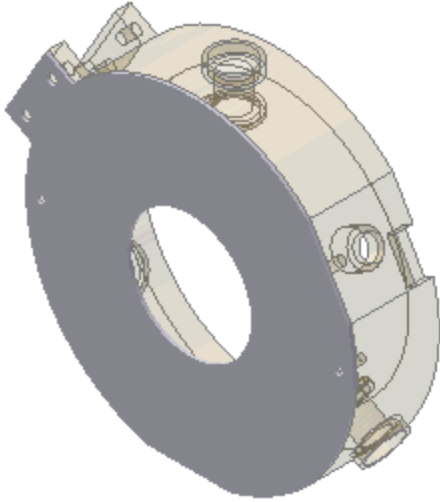

Figure 14: Reoriented view.
1. In-place edit the cover. Reorient your view to match Figure 14.